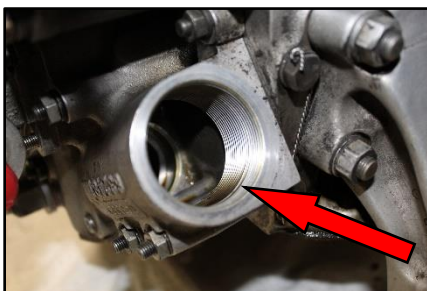

Figure 1
3. Thoroughly clean the threads of the oil pump housing, see Figure 1. (You may need to dip or siphon excess oil from the oil pump housing to facilitate cleaning the oil pump housing threads). Lubricate the threads with clean engine oil.